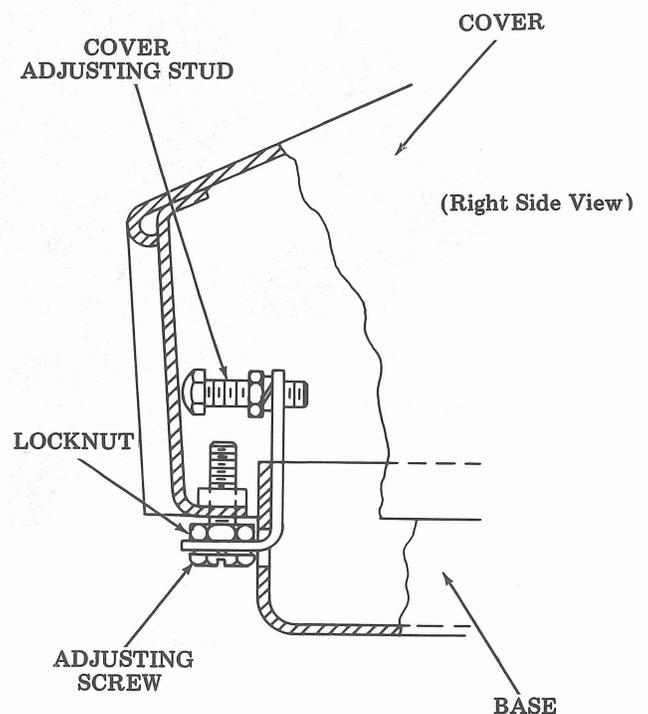

Figure 4 - Cover Adjusting Screw and Locknut
2.04 The cover assembly has a locating tab in the center, on the rear lower edge (Figure 3). This tab is fitted into a mating slot in the rear of the base assembly. The front of the cover is fastened to the base assembly with an adjusting screw, lockwasher, and nut (Figure 4). To remove the cover assembly, proceed as follows:
- (a) Remove the cover adjusting screw, lockwasher, and nut located at the bottom front center of the cover assembly (Figure 4).